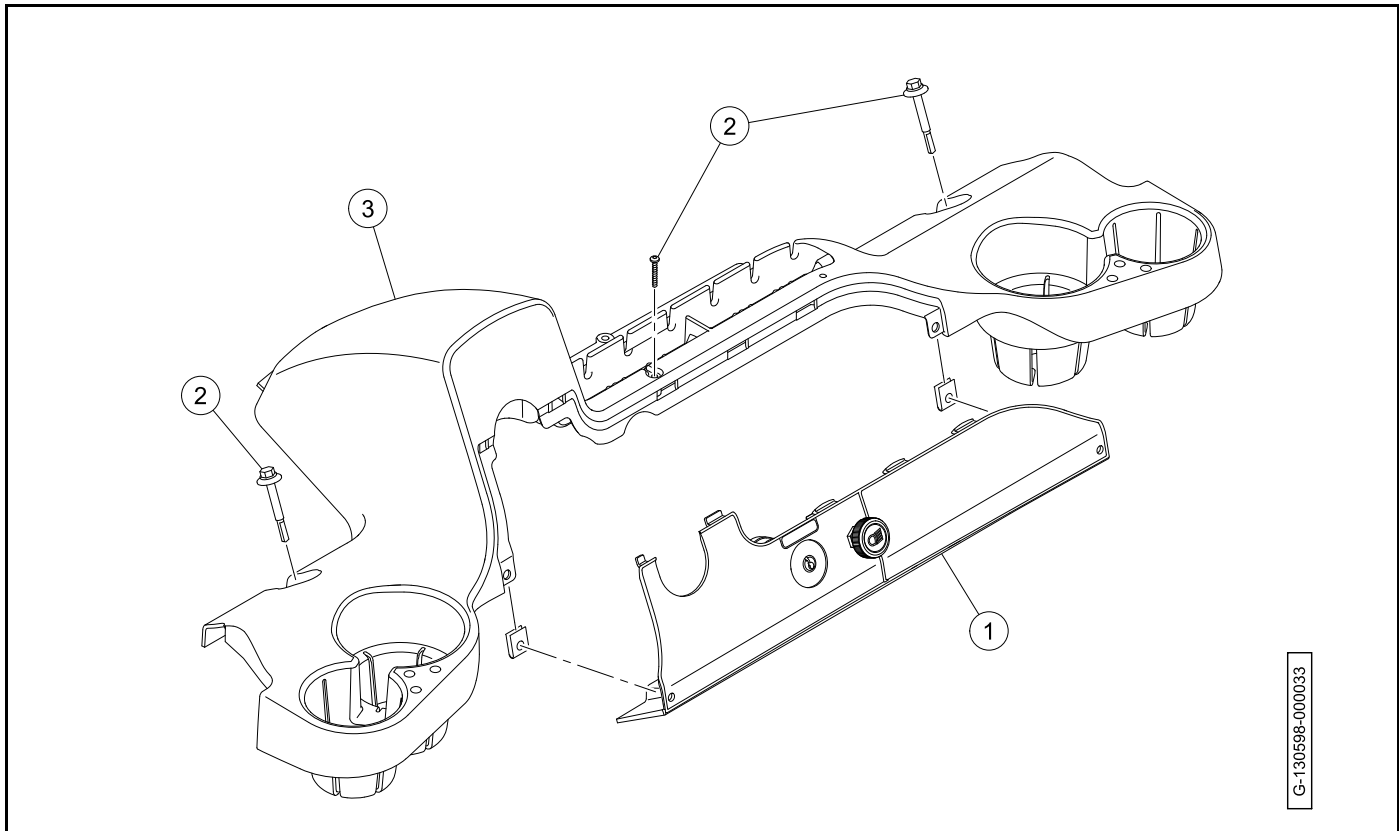

Figure 4-8 Dash Assembly
1. Remove the instrument panel (1) (**Figure 4-8**).
2. Remove the screws (2).
4. Remove the dash assembly (3).
1. Put the dash assembly (3) on vehicle (**Figure 4-8**). Make sure tabs on the forward edge engage to front underbody.
3. Install the screws (2). Tighten the screws to 8.8 lb·ft (12 N·m).
4. Install the instrument panel (1).